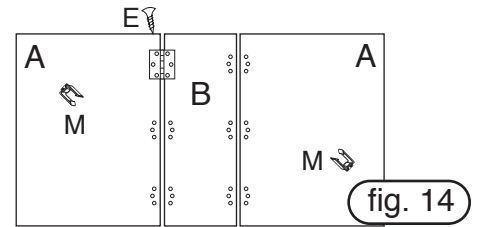
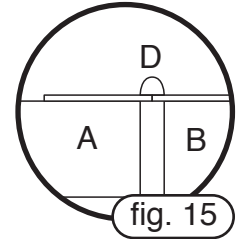

fig. 14
fig. 15
9) Need: All 3 boards (A,B,A). The boards all have pre-drilled holes in their underside along the edges. On a clean or protected surface, lay the boards upside down with the smaller board in the middle. Line up the holes on the middle board (B) with the holes on the two side boards A (fig 14)
10) Need: The boards (A,B,A), 6 hinges (D), 36 screws (E), Phillips head screwdriver (M) Leg Clamps
Place the hinges over the holes (fig 14). Make sure that the bump on the hinges is facing up - otherwise you will not be able to fold your table correctly (fig 15). Screw in each hinge to the boards, making sure that each hinge has 6 screws. Tighten securely but do not over-tighten. Take the (M) Leg Clamps and screw them into the centers of the (A) side boards as shown in Fig.14.